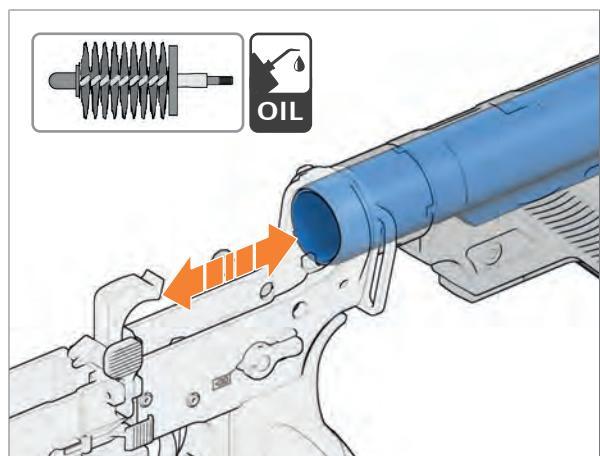

Fig. 102: Lubricate inside extension
3. Replace cleaning brush with oil brush for extension (Fig. 102).
4. Lubricate extension inside with oil brush (Fig. 102).